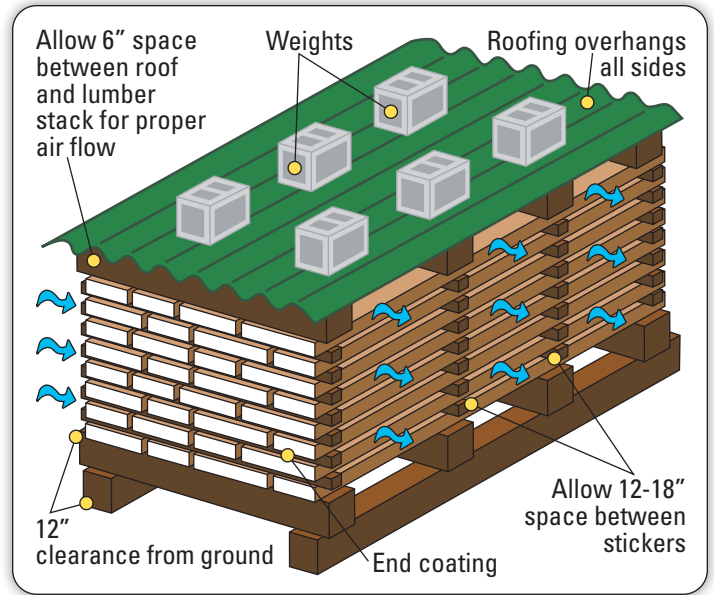

Figure 2: Stack of lumber showing proper stickering, stacking and covering.
- Applying **end coating** such as a wax emulsifier or latex paint to the ends of freshly sawn lumber helps to slow the drying process from the ends of the boards. This reduces end checking and splitting (Figure 2).
- Place a roof or covering on top of the lumber stacks or use a well-ventilated drying shed. Keeping precipitation and sunlight off the stack will help prevent surface checks and other drying defects (Figure 2).